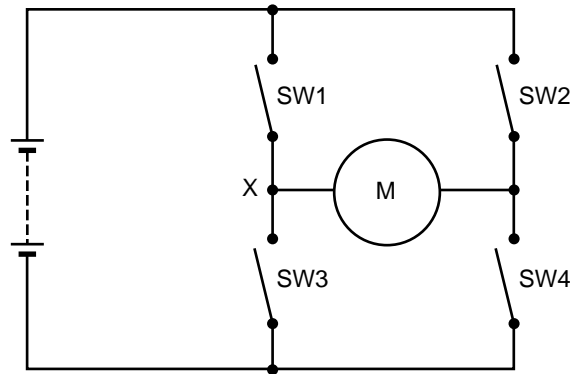

Figure 19
- d. i. Which **two** switches in Figure 19 are closed to achieve a clockwise direction and which **two** switches are closed to achieve an anticlockwise direction?